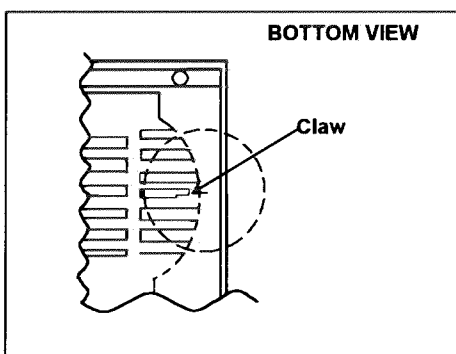

Fig. 1
1. Remove the claw securing the speaker under the front cabinet and pull out the speaker (Fig.1).